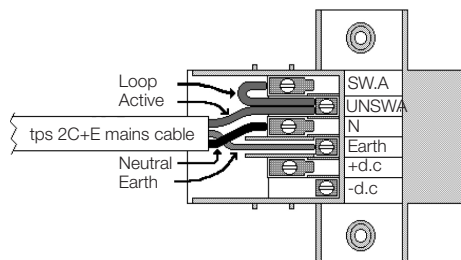

Figure 2: Quickfit terminal block connection diagram
5. Run the cables in the ceiling or wall space as appropriate or surface mounted in conduit and through the cable hole into the bracket. Strip, connect and terminate the cables as indicated in figure 2. **Note:** The loop between the switched and unswitched active terminals. Rarely, non-exit type Quickfits (like those used for emergency and other non-exit type directional or informational purposes eg: welcome, manager's office, toilets >, etc) may use a switched active supply for the normal lamp and an unswitched active supply for the emergency lamp. Exit type Quickfits more commonly have only an unswitched active supply which you will need to loop to the switched active terminal to power the normal lamp circuit within the fitting (if provided). Ensure that the double insulation of the cable/s passes completely into the terminal block enclosure so that no single insulation is exposed when the cover is in place. You will also need to mechanically protect them with a grommet, gland or bush as they pass through the opening in the mounting bracket. Likewise, the single insulation of the conductors should run right up to the metal edge of the terminals leaving no bare conductors outside of the terminals. Be careful with multi-strand conductors that all of the strands are twisted together before insertion into the terminal. Any stray strands that inadvertently come into contact with their neighbouring terminal or the metal frame of the fitting will cause undesirable results upon energisation.